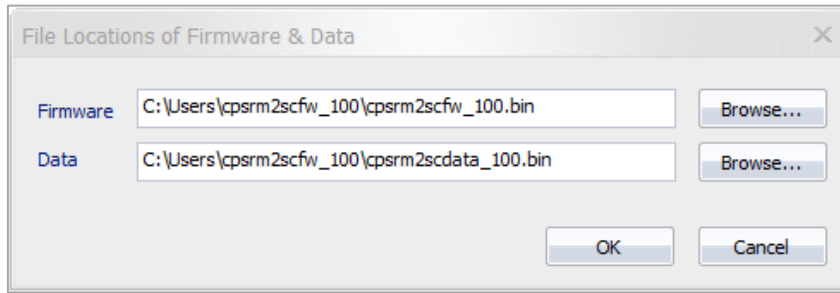

Figure 6. The File Locations of Firmware & Data window.
6. Choose the upgrade files Firmware and Data individually and click “OK” to implement firmware upgrade, as shown in Figure 6.